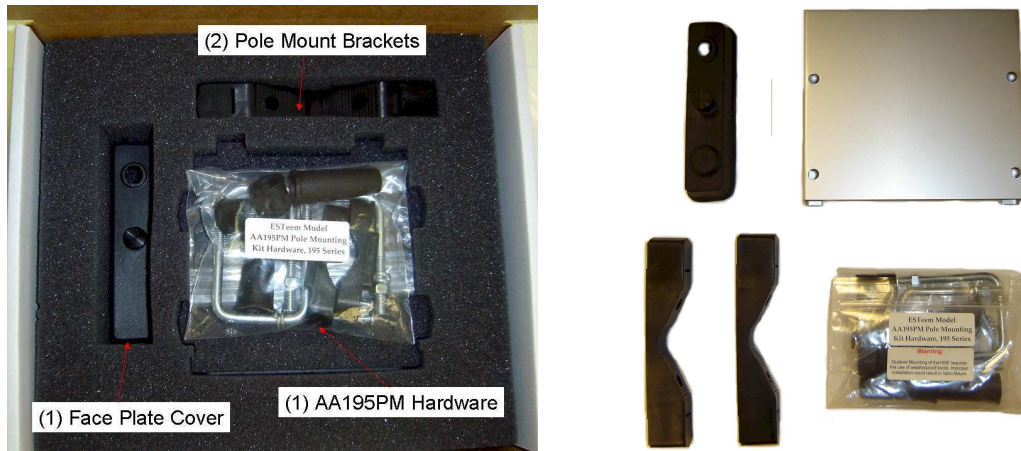

Figure 1: Packet Box Contents
1. If you purchased an AA195PM mounting kit with your Model 195Eg, the kit will be packed in the same packing box as the ESTeem (Figure 1).
2. Remove and inventory the two (2) Pole Mounting Brackets, one (1) Two-Hole Face Plate Cover (with single port cover installed), one (1) Heat Shield and (1) AA195PM Hardware bag from the packing box (Figure 1). Report any missing or damaged items to ESTeem Customer Support (509-735-9092 Phone) as soon as possible for replacement.